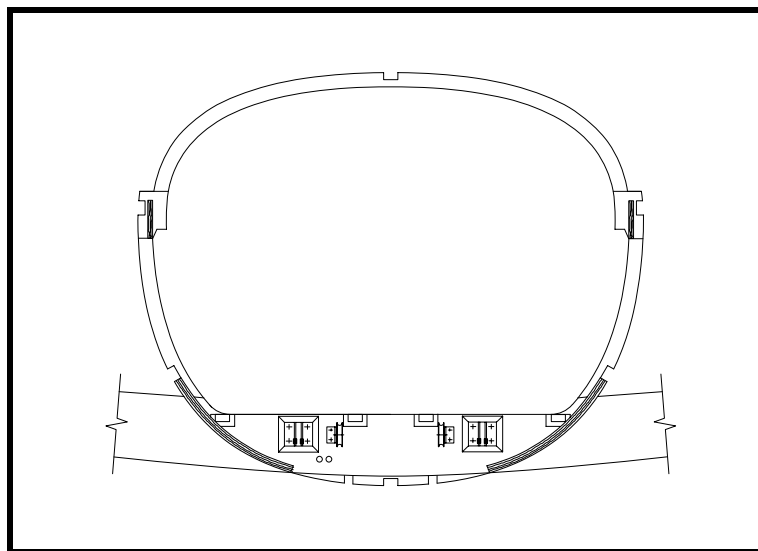

Figure 18
- ❑ Install two 10x10 spruce strips on the forward face of fuselage frame No. 3 as shown in Figure 18 (which shows the aft face). These are gluing strips to pick up the inside fuselage skin. View A-A of Drawing No. 157 shows the area where these strips will be installed although the strips are not shown. The top of these strips should be 10mm below the top of the upper side longeron.